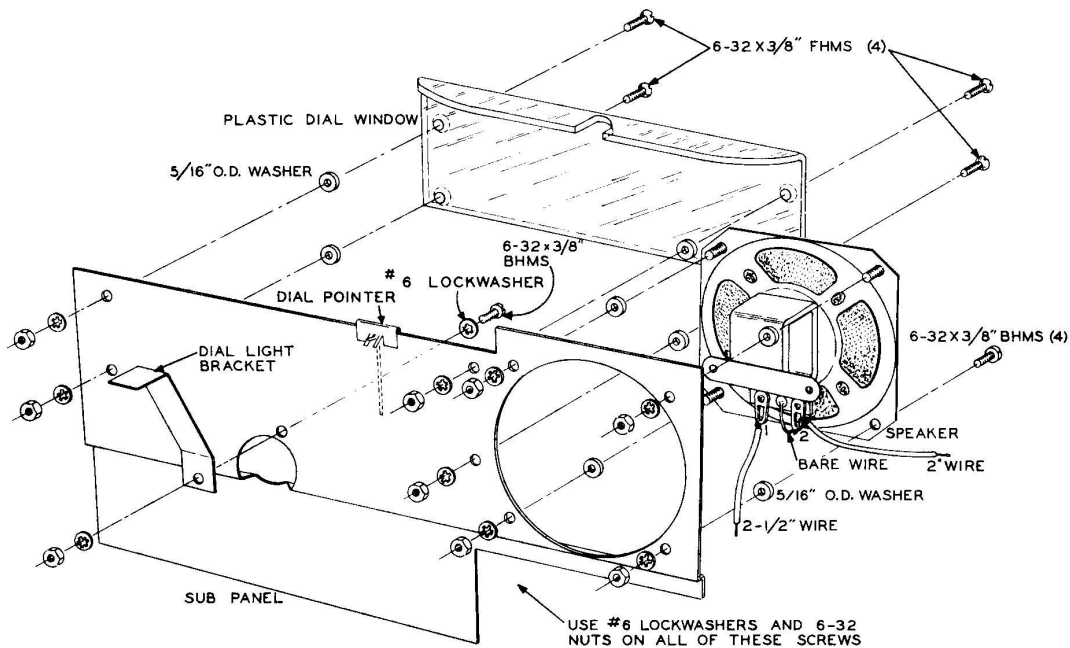

Figure 3N
Refer to Figure 3N for the following steps.
- (✓) Place the dial pointer in position over the top edge of the subpanel. The pointer itself should be on the front (black) side of the subpanel as shown in Figure 3N.
- (✓) Install the speaker in position on the subpanel as shown in Figure 3N (make sure that the speaker wires also pass through the speaker mounting hole). Use 6-32 x 3/8" BHMS, #6 lockwashers, and 6-32 nuts. Place a 5/16" OD washer on each screw between the speaker and the subpanel as shown in Figure 3N.